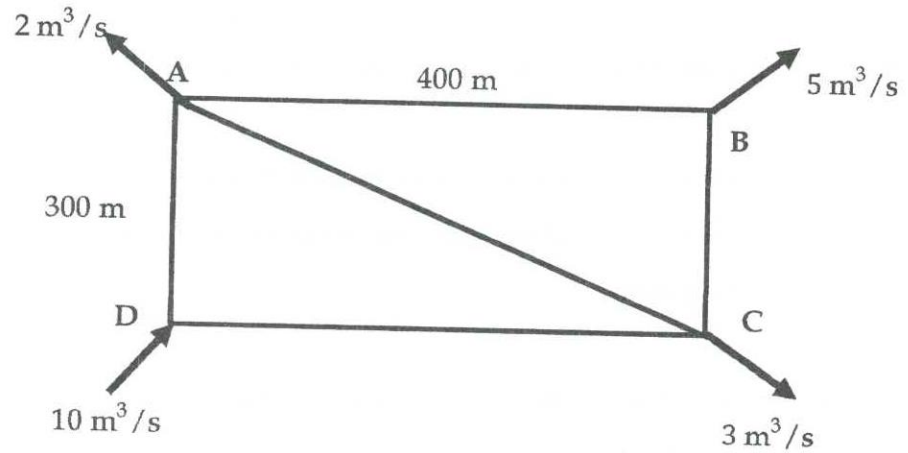

Figure Q2(c). Pipe network
- c) Use the Hardy Cross method to obtain the flow rates in each section of the pipe network shown in Figure Q2(c). Assume that discharges from D to A and C to B are $4 \text{ m}^3/\text{s}$ for the first trial. Properties of each pipe section are given in Table Q2(c).